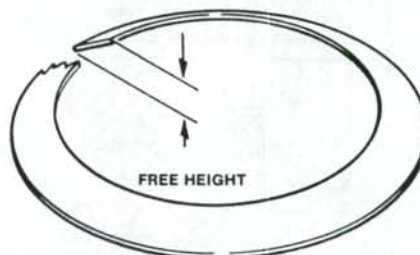

Fig. 95—Invert Belleville spring and measure dish as shown. Refer to text.
Belleville spring (1) must be checked for free height with concave side down as shown in Fig. 95. Spring free height should be 0.482-0.494 inch (12.2-12.5 mm) on Models 2090 and 2290 or 0.451-0.463 inch (11.5-11.8 mm) on Models 2390, 2590, 2094, 2294, 2394 and 2594. Renew Belleville spring if measurement is less than 0.482 inch (12.2 mm) on Models 2090 and 2290 or 0.451 inch (11.5 mm) on all other models.